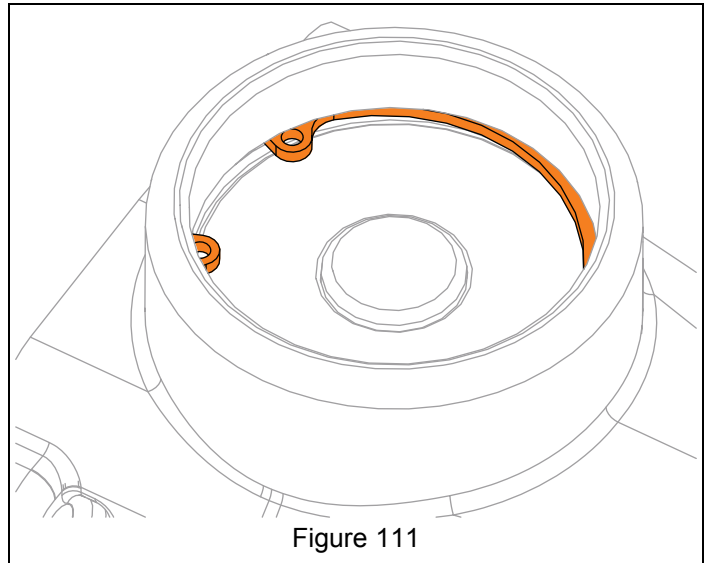

Figure 111
10. With a snap ring pliers, remove retaining ring. See Figure 111.